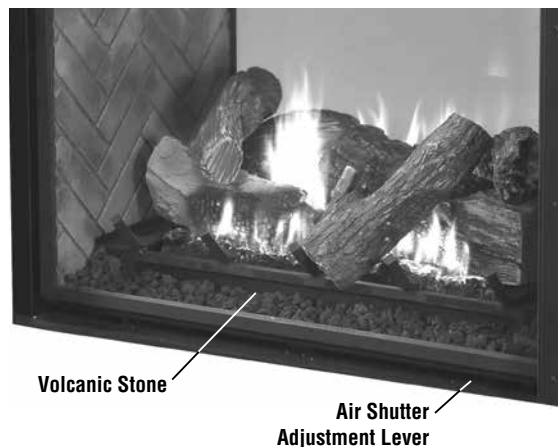

Figure 49 - Burner Flame Appearance — Control Side
2. Allow the burner to operate for at least 30 minutes while continuously observing the flame to ensure that the proper flame appearance has been achieved (see **Figures 49 and 50**).
3. Adjust the air shutter using the lever on the lower right side of the firebox on the control side (**Figure 49**).
NOTE: See **Figures 49 and 50** for proper burner flame appearance.